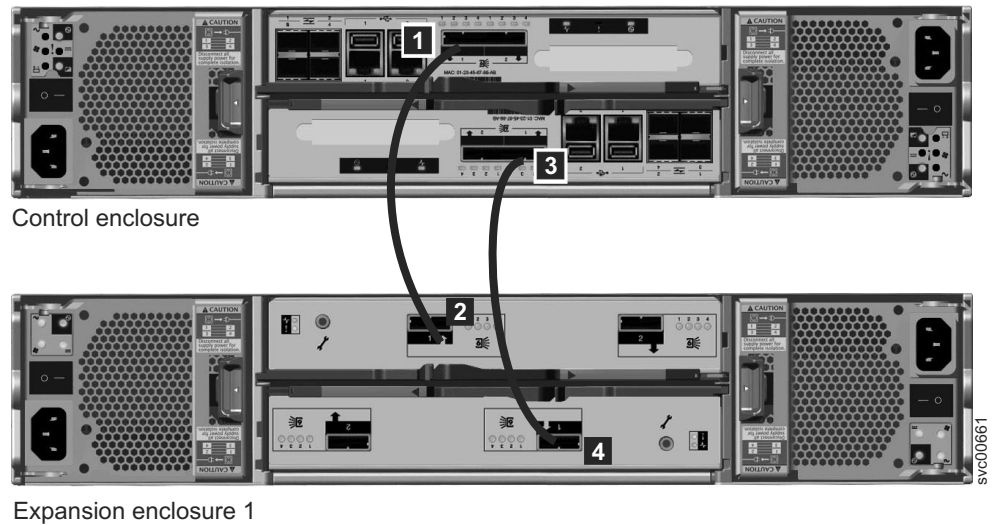

Figure 32. Attaching an expansion enclosure to the control enclosure
- Attach the SAS cables from the control enclosure to the first expansion enclosure as shown in Figure 32. Remove the protective end covers, if necessary. The first expansion enclosure is below the control enclosure.